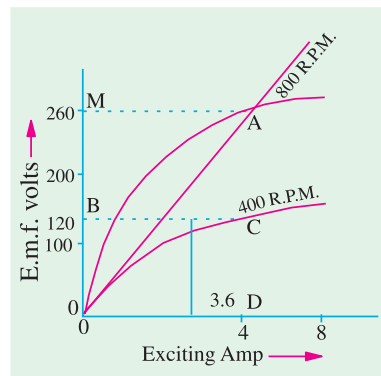

Fig. 28.16
**Solution.** O.C.C. is drawn from the given data and is shown in Fig. 28.16. OA represents  $60 \Omega$ . The voltage corresponding to point A is  $OM = 260 \text{ V}$ .